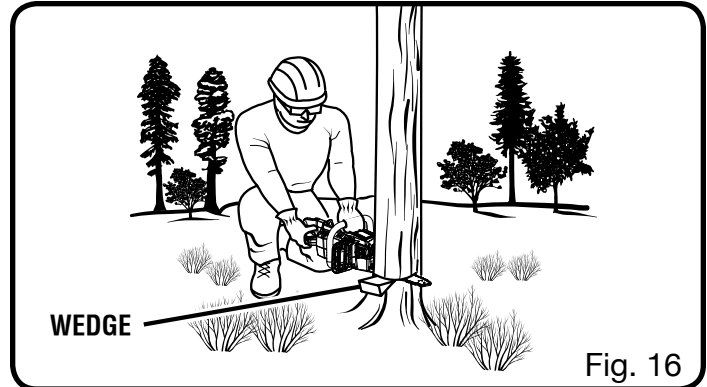

Fig. 16
- On large diameter trees, stop the back cut before it is deep enough for the tree to either fall or settle back on the stump. Then insert soft wooden or plastic wedges into the cut so they do not touch the chain. The wedges can be driven in, little by little, to help jack the tree over. *See Figure 16.*